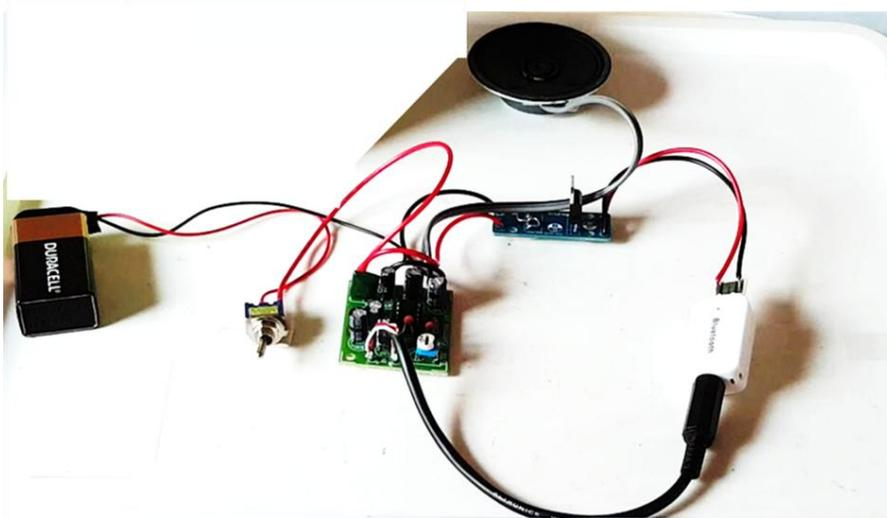

Fig 1: Bluetooth Speaker Project – Electronics only
- Refer to Figure 1. which shows a completed Audio Amplifier about to be tested.